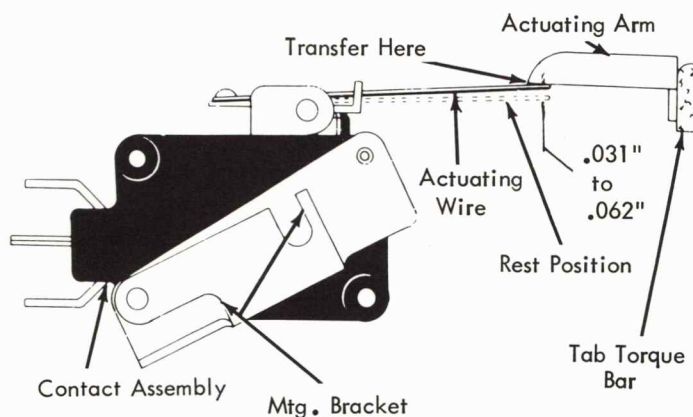

FIGURE 175. Interlock Contact
- As the tab torque bar restores, position the mounting bracket (up or down) so that the contact actuating wire travels .031" to .062" after the contact transfers (Fig. 175). This is done to insure that machine vibration does not cause the contact to transfer.